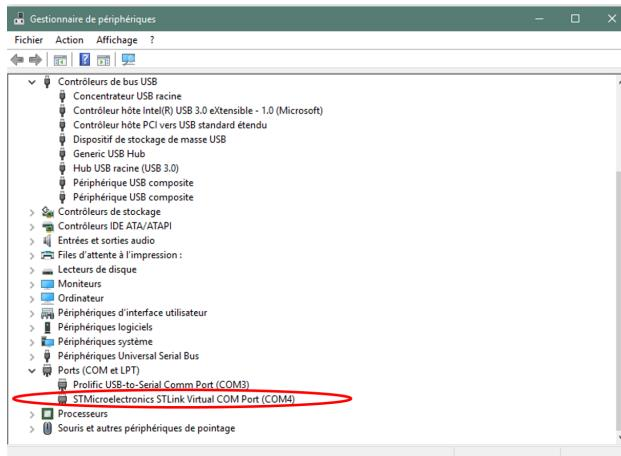

Figure 3.13: Chip not recognised.
- Go back in *device Manager < USB bus controller* and check that your device is recognised as shown on the fig. 3.13.
- to find on which USB port is your chip, to refer to you the *device Manager < USB bus controller* like in the section 3.1.3 on the fig. 3.13. In that case, we can see that